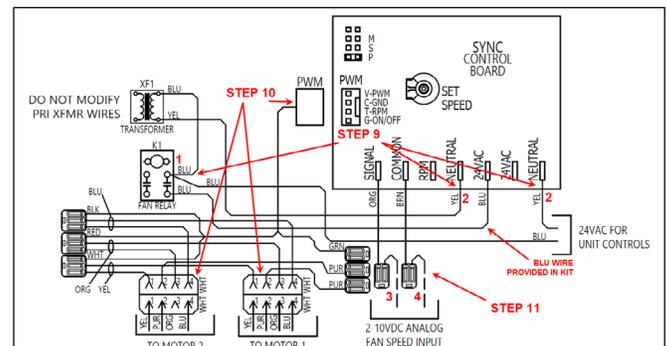

Figure 47 - Sync PWM Electrical Connections
CONNECT POWER AND FAN RELAY TO SYNC PWM (See Figure 47)
CONNECT MOTOR CONTROL SIGNAL TO SYNC PWM (See Figure 47)
CONNECT 2-10VDC SIGNAL WIRES TO SYNC PWM (See Figure 47)
- Ensure that the new wires have been connected as specified in Figure 47.